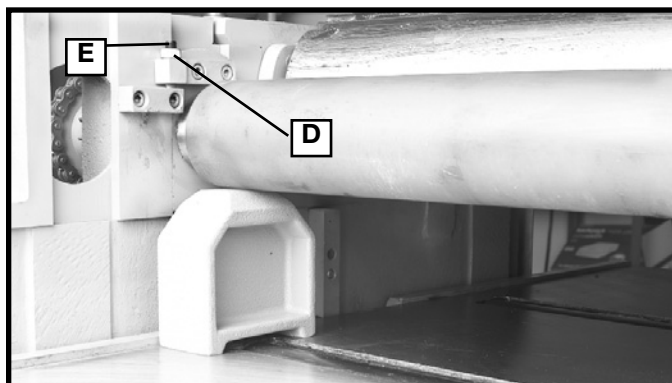
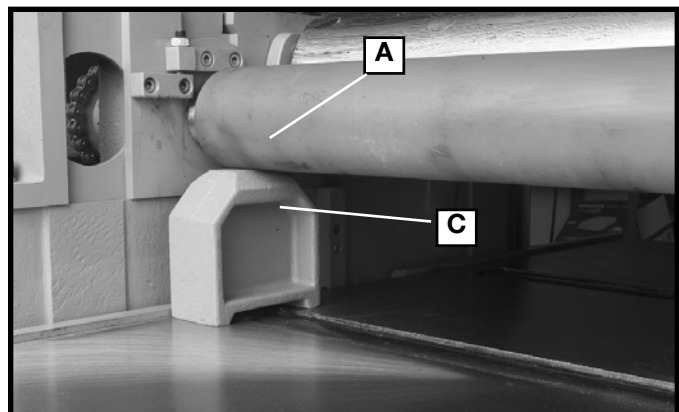

Fig. 37
Fig. 36
4. Place the gauge block underneath outfeed roll (A) Fig. 36. The feed roll should just touch the top of the gauge block (C) which would be .035" below the cutting circle. If an adjustment is necessary, loosen locknut (D) Fig. 37, and turn adjusting screw (E) until the outfeed roll just touches the top of the gauge block. Repeat at opposite end of feed roll.